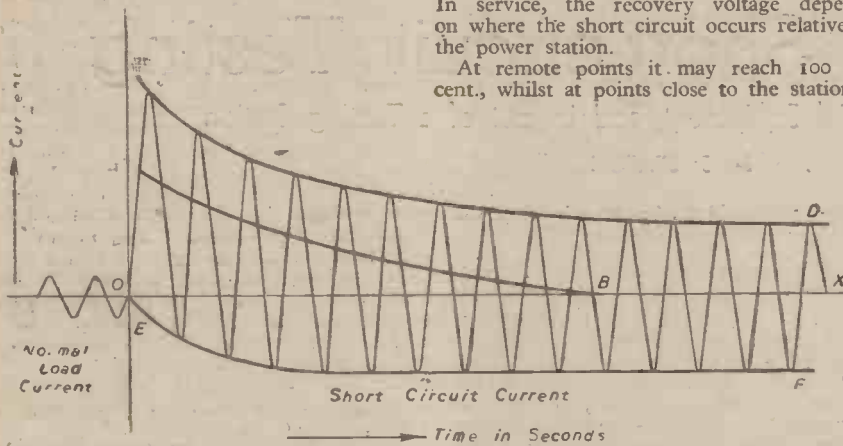

Fig. 2.—Short circuit characteristic of an alternator.
a short circuit occurs at the point "X" along the line. The current supplied by the alternator immediately rises to a peak value, and then gradually decreases to a final steady value, as indicated in the curve Fig. 2. The value of this peak current is governed by the reactance of the line, and any synchronous plant between the alternator and point of short circuit. It may rise to many times the value of the full load current.
Fig. 2 illustrates the characteristic of a short circuited alternator.
(1) A direct current component as indicated by the line A and B (Fig. 2).